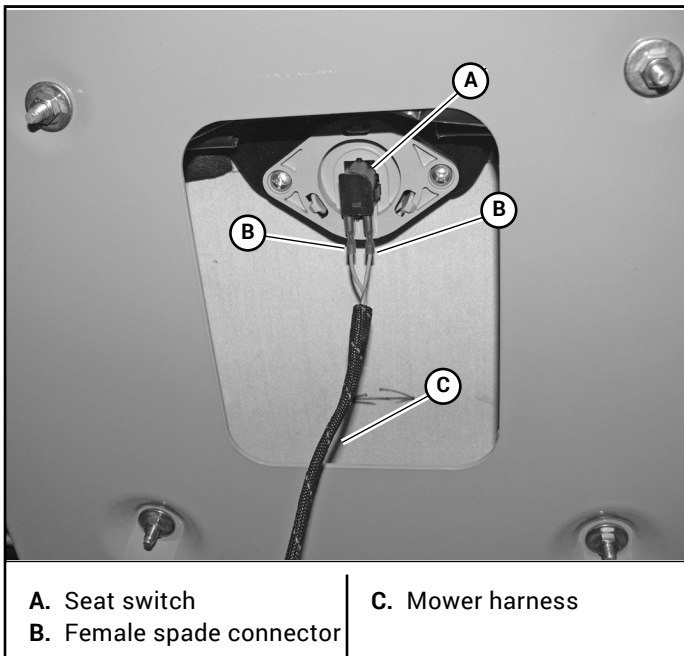

Figure 4-7
- Bypass the seat switch by connecting the two mower harness female spade connectors together. Figure 4-7
- Reconnect the two female spade connectors to the seat switch. This must be completed so that the safety circuit is functioning properly. Figure 4-7